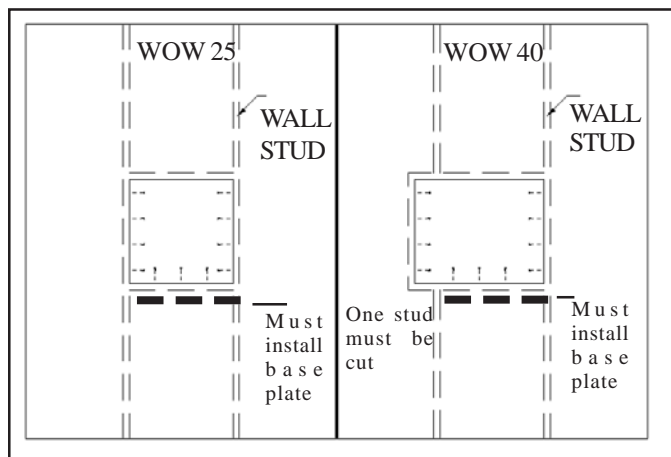

FIGURE 12
- F.) From inside the room, slide outer cabinet through cut out opening until flanges are flush against inside wall. (See Figure 12).
stud. WOW253/254 will be secured into studs on both sides. WOW403/404 must be secured to stud on one side, can be left or right side. (See Figure 12).
- F.) From inside the room, slide outer cabinet through cut out opening until side and bottom flanges are flush against inside wall. (See Figure 12). This leaves a 1/16" gap between the wall and cabinet top flange. This gap is necessary to install the front panel.